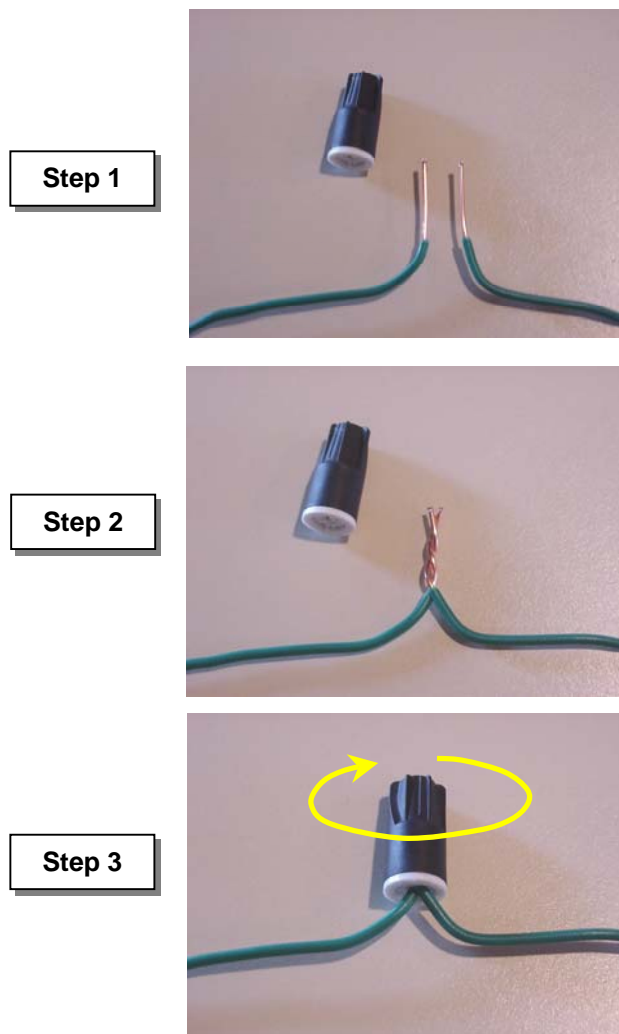

Figure 1 – Splicing the perimeter Wire
2. Strip ½ inch (1.5cm) of each wire end (Figure 1 – step 1).
3. Twist the stripped ends together (Figure 1 – step 2).
4. Screw the silicone filled wire nut on the twisted ends until it stops turning (figure 1 – step 3).